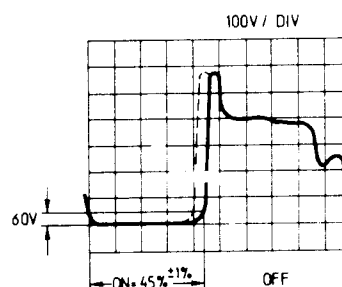

Figure 5-2
3. Reduce AC source while watching the positive going edge of the waveform (figure 5-2).